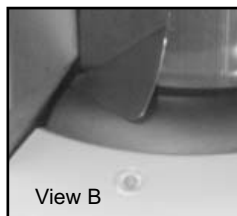

Figure 3.
3. As shown by Figure 3, View A, position the Plate Protector containing the PSP against the curved inlet, surface and hold it flush against the scanner inlet. A Plate Protector containing an exposed PSP narrower than 12 inches may be centered on the scanner inlet, making sure that it is aligned.
4. Gently slide the PSP and Protector assembly into the scanning slot until the Protector is stopped by both guide flaps resting on the inlet ring as shown by Figure 3, View B, which further aids in alignment.